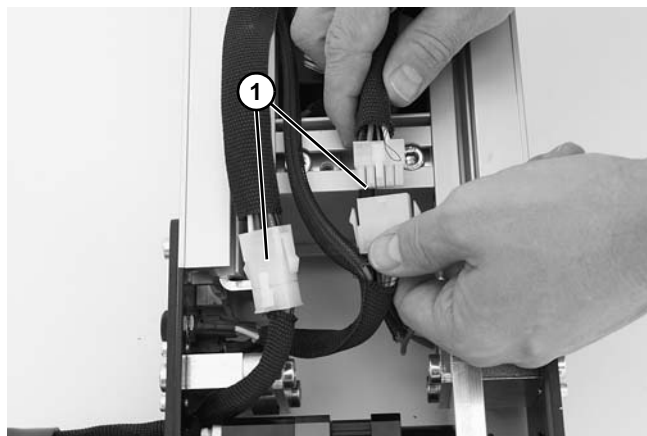

Figure 137
3. Disconnect two wiring harness connectors (**Figure 137, item 1**).